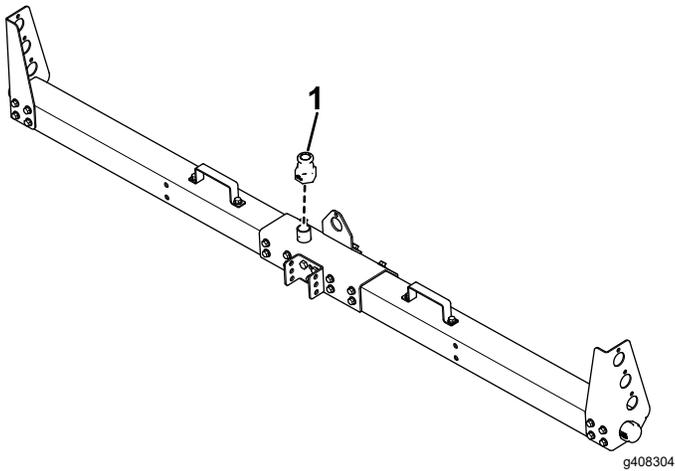

Figure 19
- 7. Use thread tape to securely install the 1-inch straight pipe fitting onto the boom pipe (Figure 19).